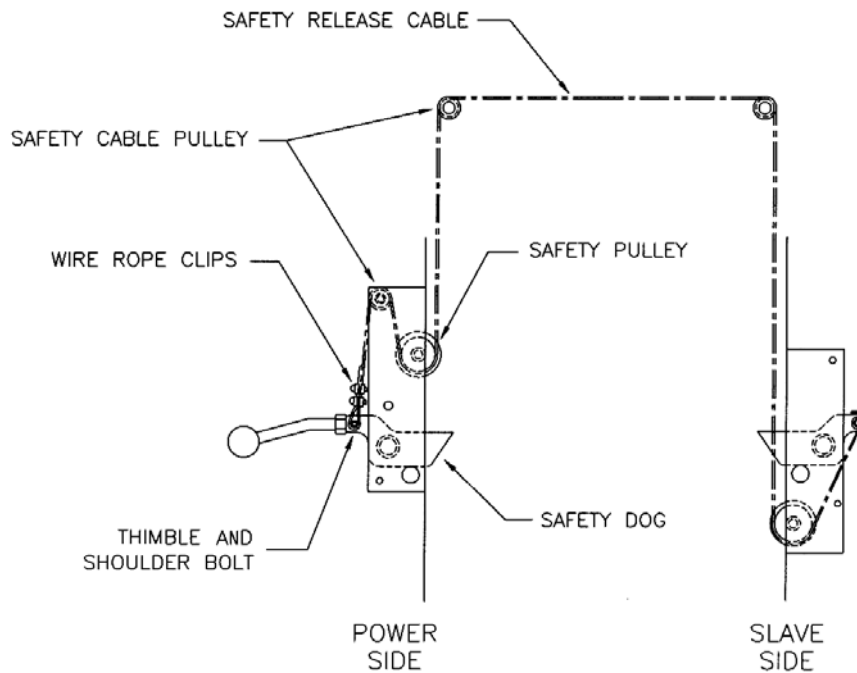

Figure 10 – Safety Release Cable Routing and Adjustment
1. Refer to **Figure 10** for safety release cable routing. The end with the collar is to be installed onto the slave side tower, while the loose end will be installed onto the power side tower with two (2) wire rope clamps.